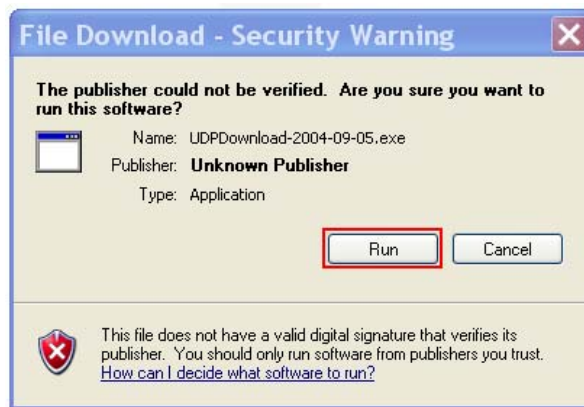

Figure 5.6 Security Warning Dialog Box
7. A Security Warning dialog box, similar to the one shown in Figure 5.6, appears. Click **Run**.